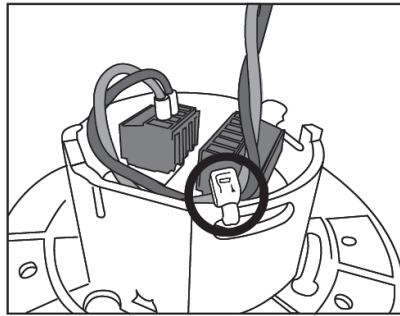

Figure 28: LDALI-MS2/MS3/MS4-BT strain relief.
- Use cable tie to ensure proper strain relief (see Figure 28).